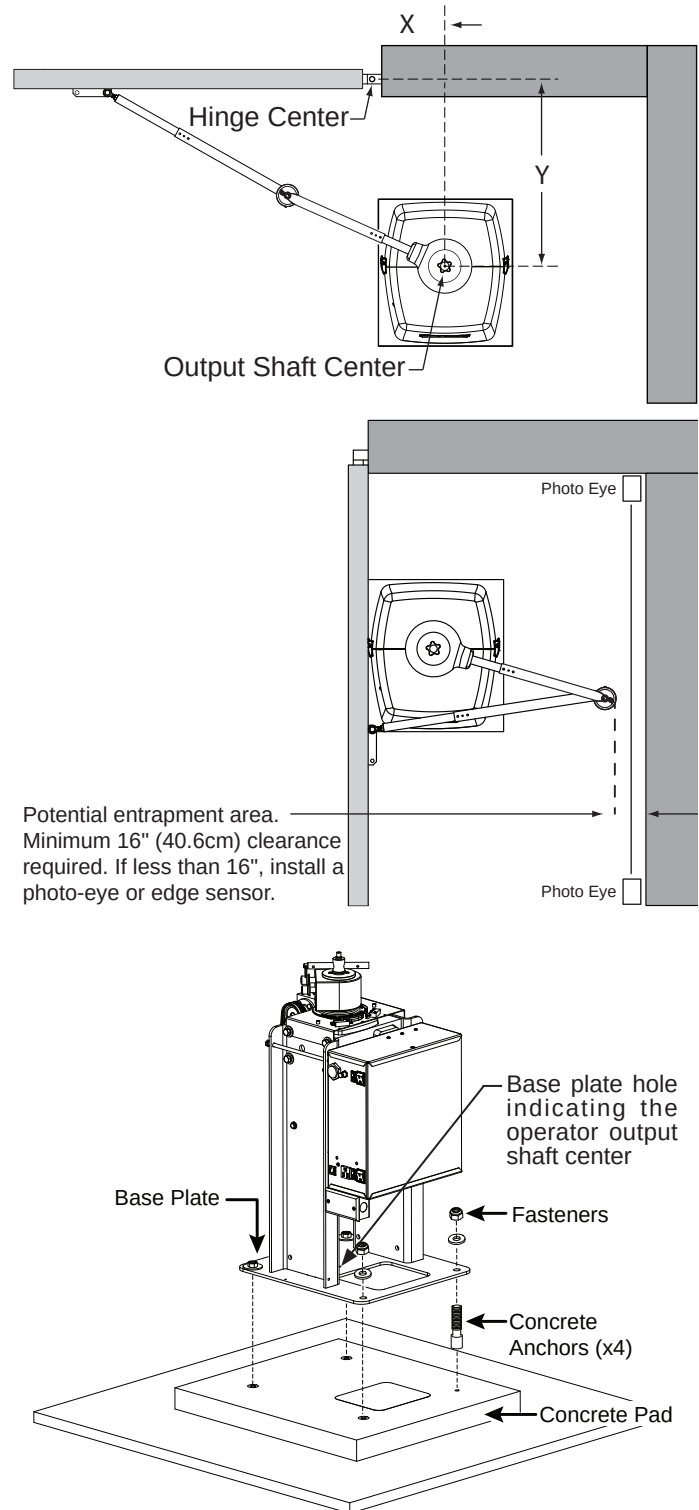

Figure 5. Mounting Operator
2. Before placing the operator on the pad, measure and mark the output shaft center on the concrete pad by selecting the X and Y dimensions. Refer to Figure 5 & Table 2.
3. Set the operator base on the concrete pad and use it as a template. Position the operator base so the center mark on the pad aligns with the small hole in the base plate (see callout in Figure 5). Mark the fastener and conduit cutouts. Remove the operator from the concrete pad and drill the holes for the concrete anchors.
4. Mount the operator with four ½ x 3½-inch concrete anchors as shown in Figure 5.